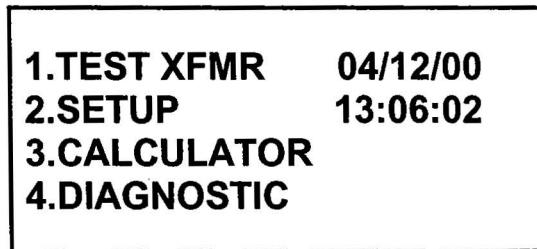

Figure 14-1. Start-up Menu
- b. Origin:** XFRMER CONFIGURATION menu display as a result of pressing key 1 from the "Start-Up" menu (see Figure 14-1).
- c. Action Option:** Press key 1, 2, 3, 4, or 5, depending upon the transformer configuration to be tested. Press STOP to return to the "Start-Up" menu.